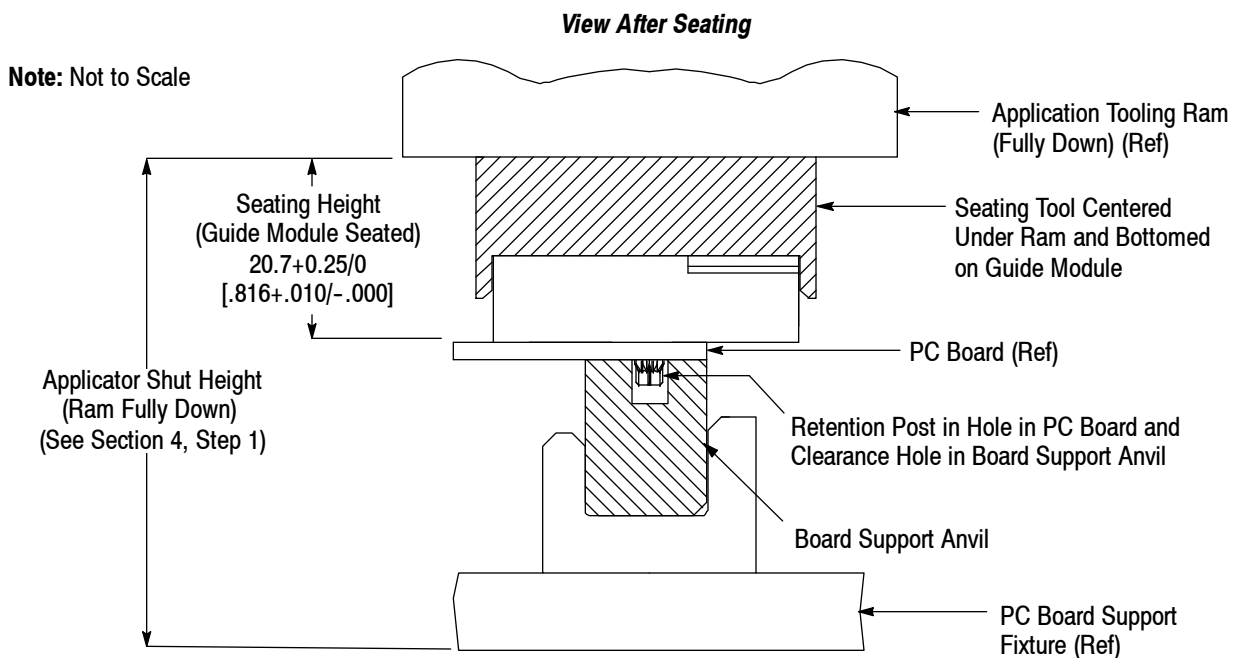

Figure 2
4. SEATING (See Figure 2)
1. Set the seating height to the dimension shown in Figure 2 (applicator shut height will equal the seating height PLUS the combined thicknesses of the pc board and pc board support fixture).
7. Cycle the application tooling according to instructions for the tooling. Check the assembly for proper seating using the requirements in Figure 2.